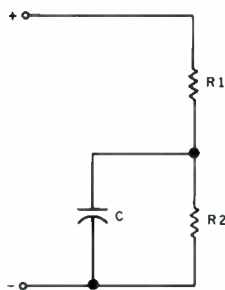

FIGURE 1: This crossover arrangement allows all the drivers to function at low frequencies, but only one driver to function at high frequencies.
To obtain the uniform dispersion of a single small driver, you may design a "crossover" (Fig. 1) that allows all drivers to function at low frequencies (so that power handling is not compromised), but only one driver to function at high frequencies.
The required capacitor value C can be obtained by calculating the equivalent values of R1 and R2 in Fig. 1. In our case,
Referring again to Fig. 1, you now have $R1 = R2 =$ the impedance of two drivers in parallel (equals 4Ω if each driver is 8Ω). Determine C1 from equation (1) for the desired f_c .